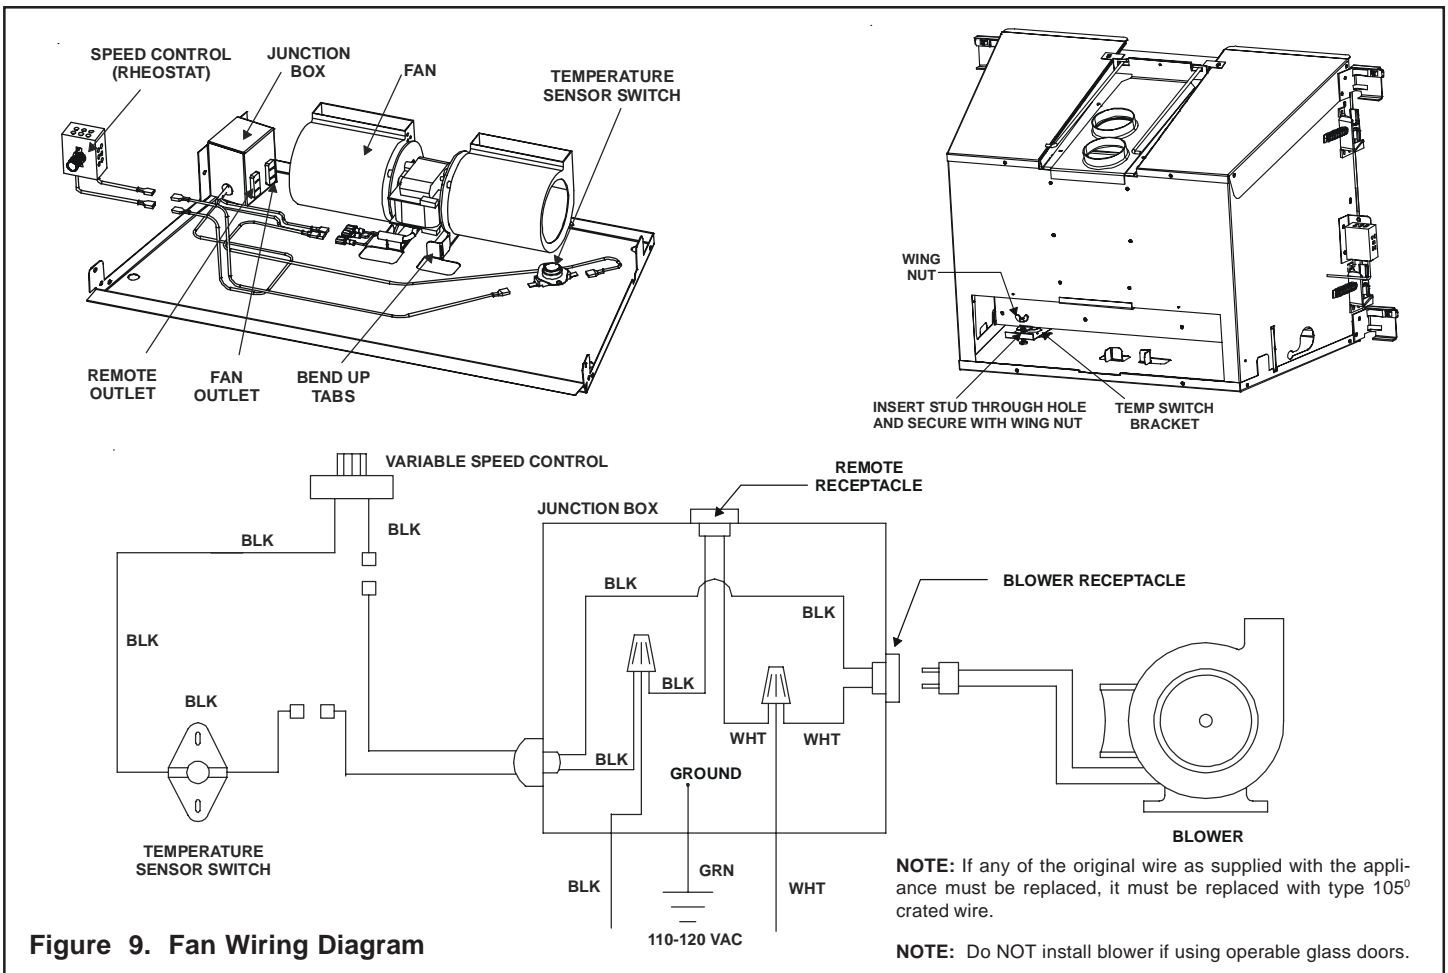

Figure 9. Fan Wiring Diagram
- Bend up the tabs on the base pan (see Figure 9).
- Install and wire the blower per instructions shipped with the fan. Refer to Figure 9 for placement of the temp switch bracket and mounting stud.